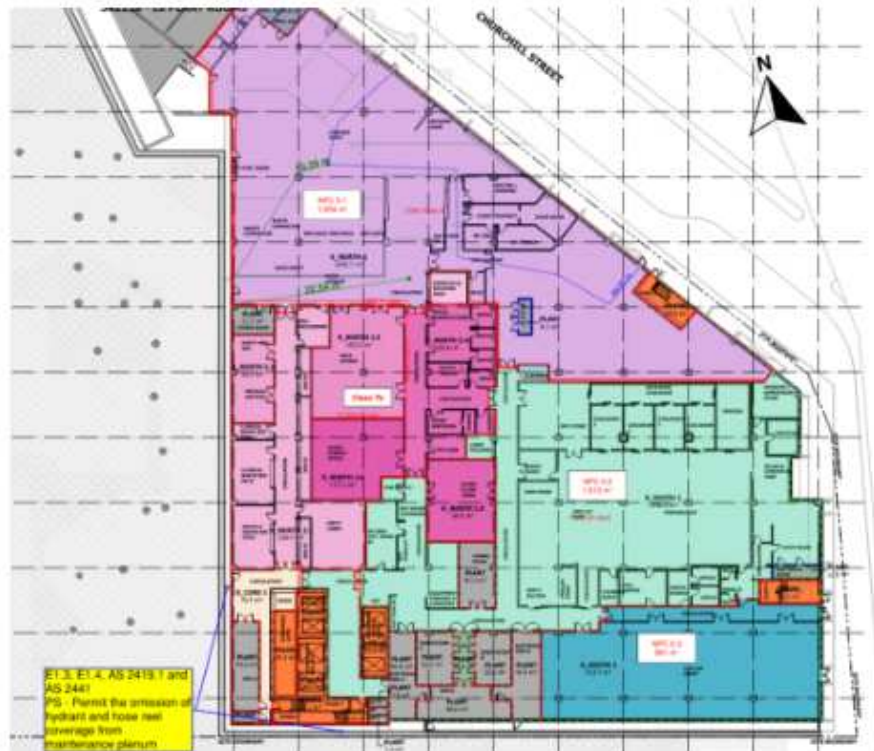

Figure 3.18 – Omission of hydrant and hose reel coverage to maintenance plenum on Level 0
- i. Fire hydrant coverage need not be provided to the maintenance plenum located on Level 0 as shown in Figure 3.18.
- The maintenance plenum located on Level 0 as shown in Figure 3.18.